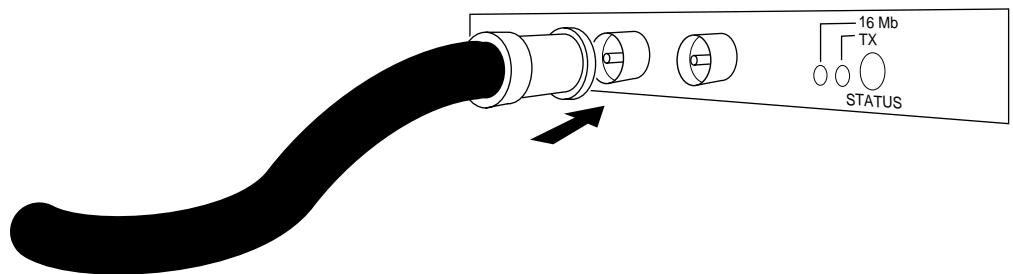

Figure 2-5 HSS G.703 Cable Connection to BNC Connector Ports
- Connect the appropriate cables from the G.703 system to the HSS G.703 module TX and RX connectors (see Figure 2-5).